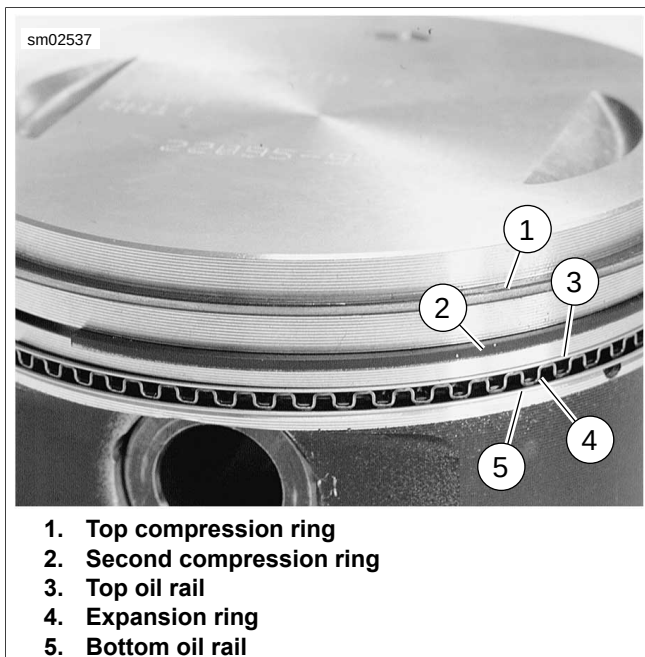

Figure 3-67. Piston Rings
- See Figure 3-67. Apply clean engine oil to three piston ring grooves.
- Install expansion ring (4) into third ring groove.
- Spiral bottom oil rail (5) into space below expansion ring (4). Position gap 90 degrees from the gap in the expansion ring.
- Spiral top oil rail (3) into space above expansion ring (4). Position gap 180 degrees from the gap in the bottom oil rail.